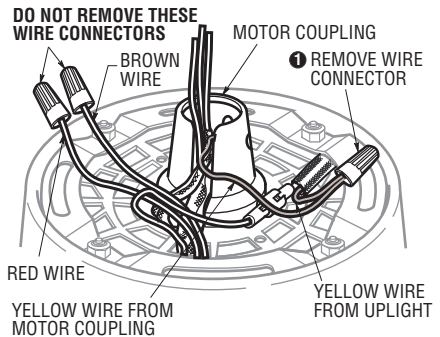
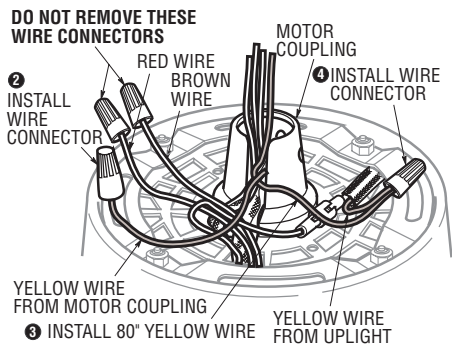

Figure 16
Figure 17
- 13. **For Ceiling Fan Models CF4500 and CF4800 (Newer Models) Only.** Locate the two yellow wires terminated by a wire connector. Remove the wire connector and separate the wires (Figure 16). One yellow wire comes from the motor coupling; cap the end of this wire using a wire connector (supplied) (Figure 16). Separate, untwist and unkink the 80" yellow wire lead (supplied with the fan) and cut off the connector from the end of the wire. Strip 1/2-inch of insulation from the end of this wire. Then join the 80" yellow wire to the yellow wire from the uplight using a wire connector (supplied). (Figure 17).